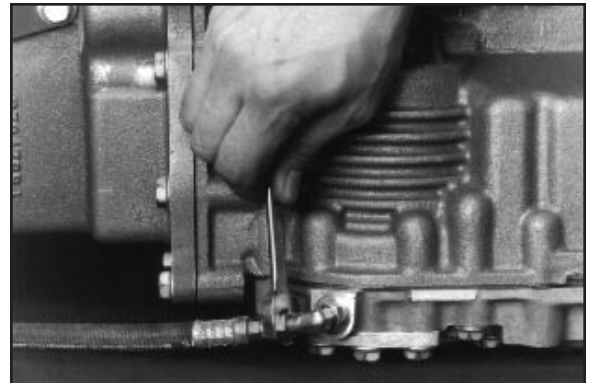

Fig. 12
- 12a. Securely attach the high pressure line to the elbow fitting at the transmission high pressure port and torque to 11-12 Lbs. ft. [15-16 N.m.]. This fitting is included with the P.T.O. (**Fig. 12**).